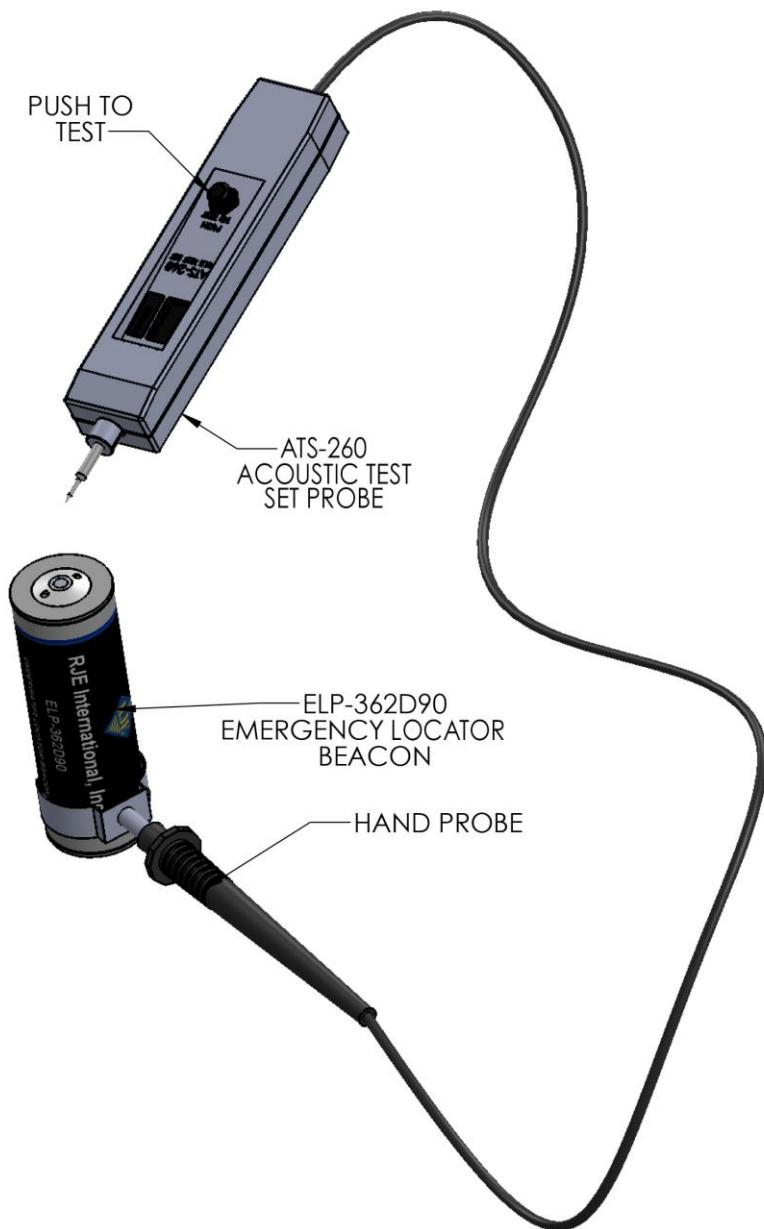

Figure 3-4 Connecting the ATS-260 Acoustic Test Set
Figure 3-4 Connecting the ATS-260D Acoustic Test Set.....	10
1. Attach the cable clip directly to the beacon housing as shown in Figure 3-4. It is not necessary to remove the beacon from the mount to conduct the test. Although the cable clip can touch the beacon label, it is important that at least part of the clip touch the bare aluminum surface of the beacon.
2. Apply the test set probe to the water activation switch as shown in Figure 3-4.